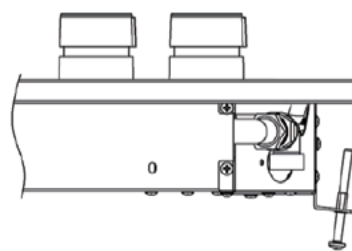

Figure 3
5. Once brackets are inserted properly, tighten each screw by hand so they contact the countertop above and ensure every connection is snug. Then tighten with a Phillips-head screwdriver to secure the unit (see Figure 3).